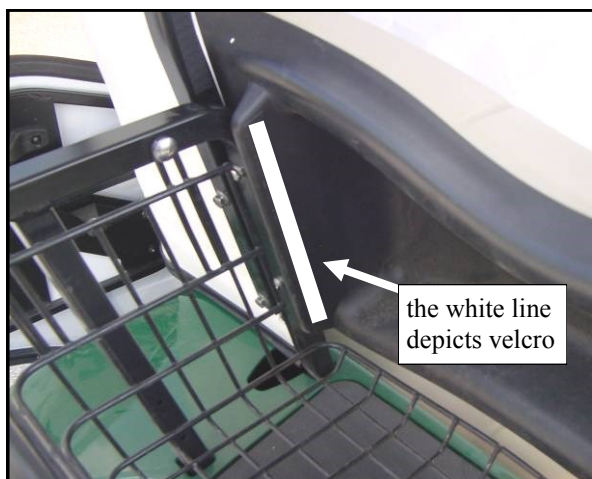

Fig. 4.3 (view from right side)
4.3 Per fig. 4.3, install hook velcro to the back inside edge of the seat as shown. Ref.: 10" long per side. Note: the white bold line shown in the photo is to help indicate where the velcro should be applied.
4.8 Per fig. 4.8, velcro the final two lower sides to the back sides of the seat (ref.: attach to the newly installed velcro shown in fig. 4.3 on the previous page).